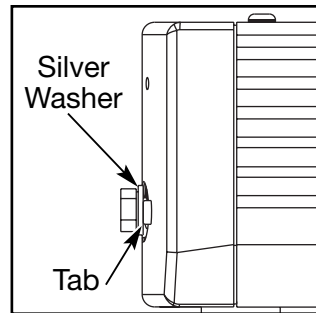

Figure 7
- D. Using a 3/4" socket wrench, tighten each rear roller bolt evenly, making sure not to tighten either bolt too many turns before moving to the other bolt. Use the small plastic tab above the bolt hole as a visual reference to tension the rear roller bolts. When tightening the rear roller bolts, look down onto the plastic tab located just above the bolt head. Make sure the entire side of the silver washer is visible and is not hidden by any portion of the tab. See Figure 7.